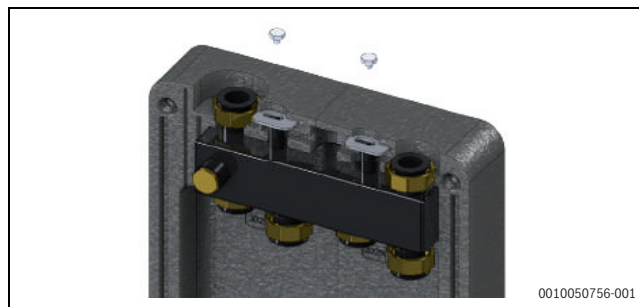
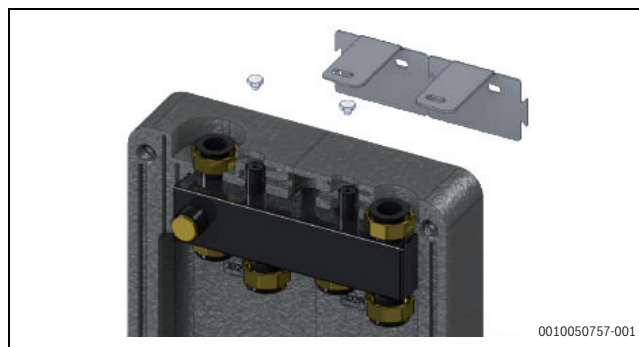

Fig. 11 Remove the screws
Fig. 12 Remove the wall bracket
2. Through a wrench unscrew and remove the screws (→ Fig. 11). Then remove the wall brackets (→ Fig. 12).